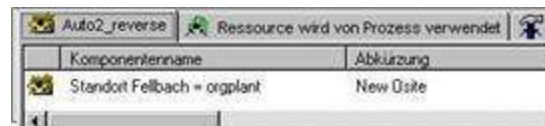

Figure 219: View Autorelations
- 1) Click **Update Autorelations** item to start the update. *Please refer to the Figure 219.*